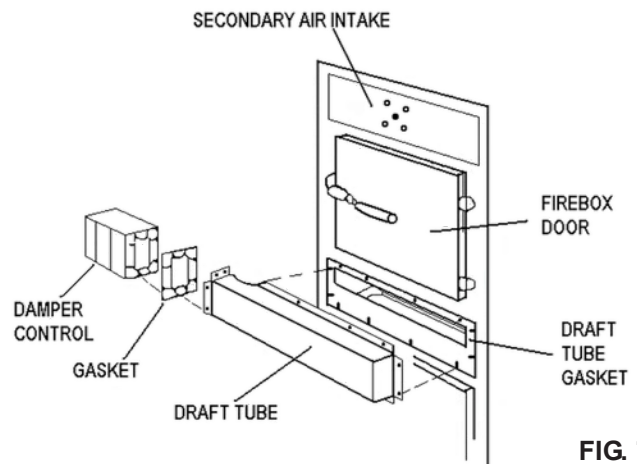

FIG. 7
1. Remove secondary air intake cover from accessory package and align over mounting holes located above fire door assembly on face of furnace. See Fig. 7.
Remove the 8 bolts already screwed in where draft tube gasket is in place. Mount tube over gasket. Make sure the gasket aligns with the long slotted hole. Bolt tube to the furnace below the fire door. See Fig. 7 & 8.